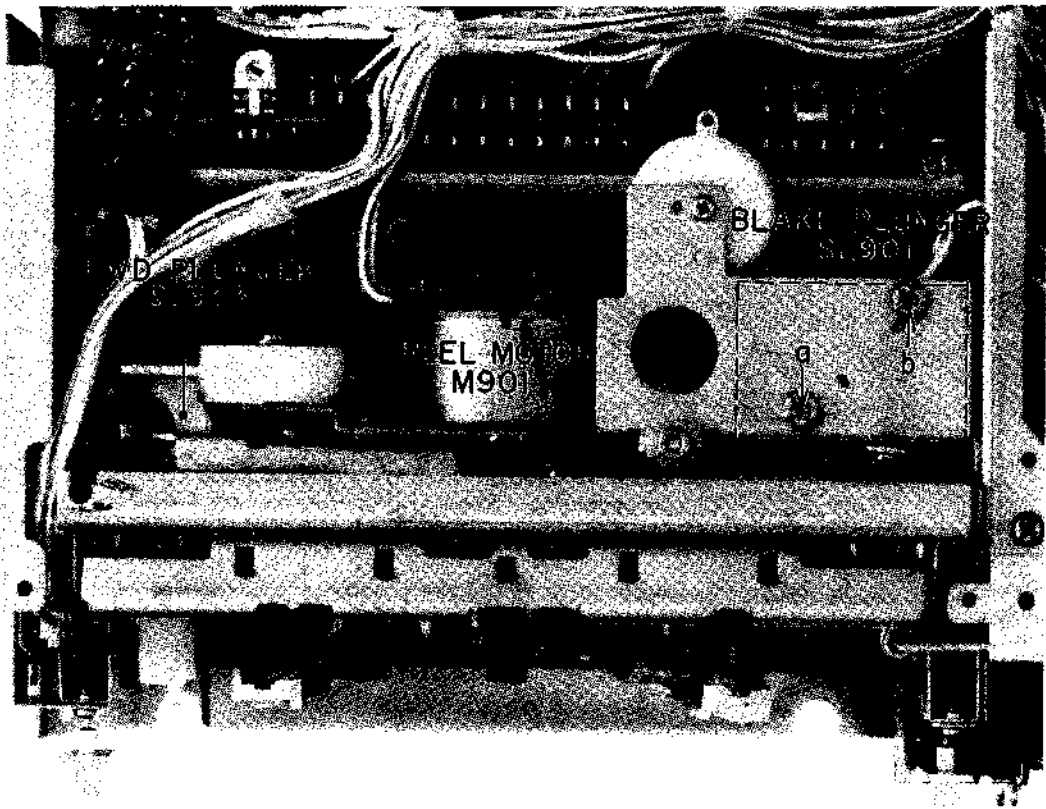

Fig. 19
- 2) Brake Plunger Adjustment (Refer to Figs. 19, 20)